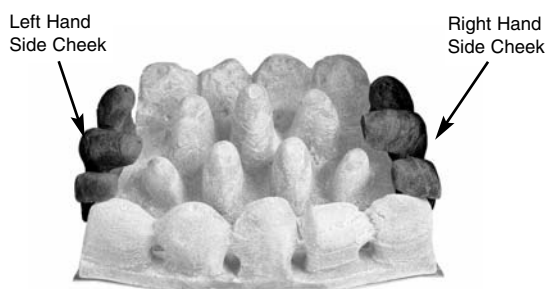

Fig. 27
4. Place the side cheeks into position, making sure they are positioned either side of the fuel bed and the overhang is at the front. The outside edge should be in contact with the radiant box ceramic liner. Ensure that the lower part of the side cheeks sit on the front coal and are in front of the rear coal (Fig. 27).